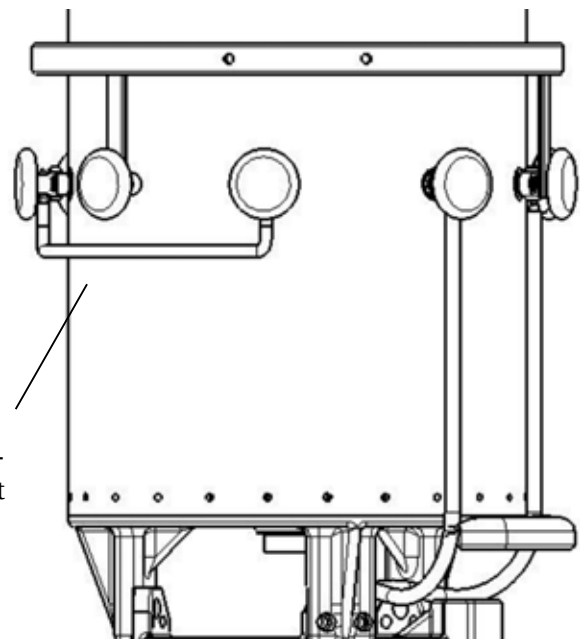

Figure 17 Short-circuit phases B and C
- 3) I-500/600 tap selector's lead wires (2 in total) must be connected to the diverter switch phase A's contact led-out terminal. Then use a wire to short-circuit phases B and C (Figure 17).